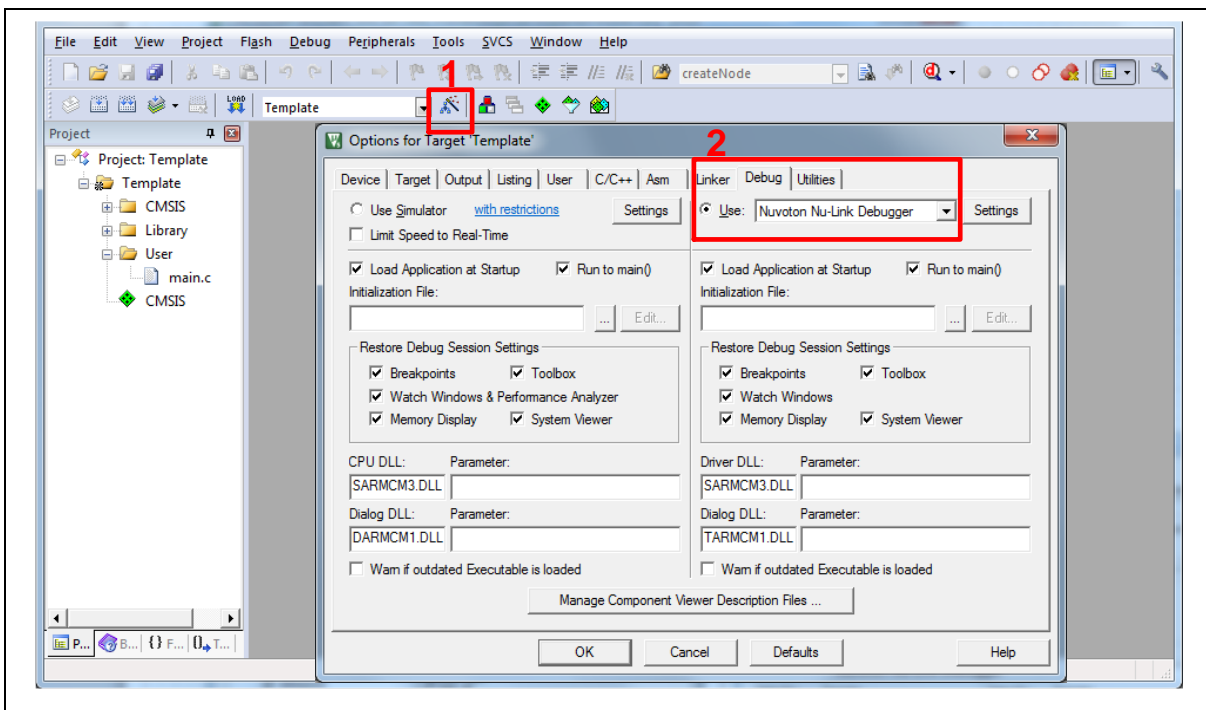
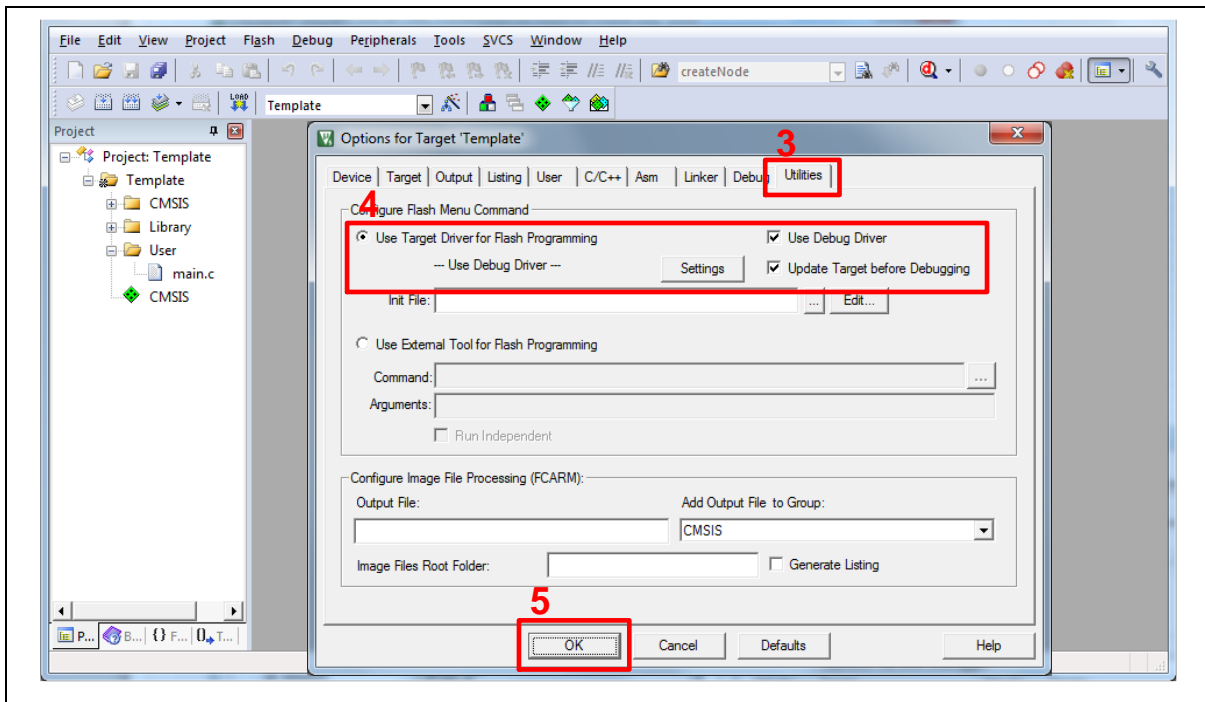

Figure 5-10 Debugger Setting in Options Window
Figure 5-11 Programming Setting in Options Window
2. Make sure the debugger is “Nuvoton Nu-Link Debugger” as shown in Figure 5-10 and Figure 5-11.
**Note:** If the dropdown menu in Figure 5-10 does not contain “Nuvoton Nu-Link Debugger” item, please rework section 5.2.